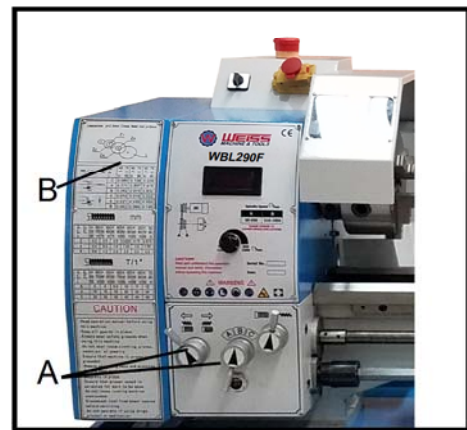

Fig. 22
1. Set the selector knob (A, Fig.22) to select the feed direction and feed speed.
2. Use the table (B, Fig.22) on the lathe for selecting the feed speed or the thread pitch. Adjust the change gear if the required feed or thread pitch cannot be obtained with the installed gear set.